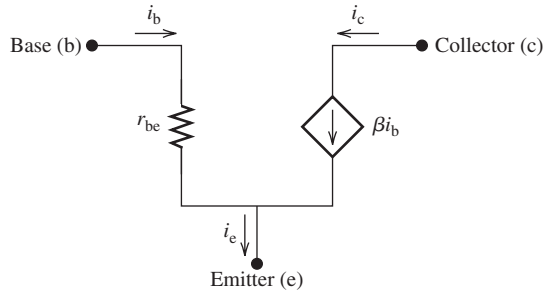
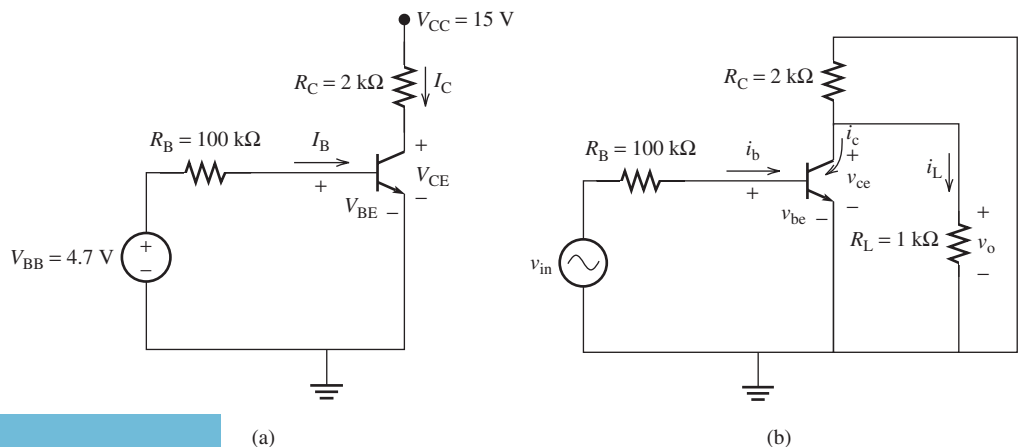

FIGURE 8.50 AC equivalent circuit (small-signal model) of an NPN transistor.
FIGURE 8.52 (a) DC and (b) AC equivalent circuits for the circuit shown in Figure 8.51.
In AC analysis, the transistor is replaced by an equivalent circuit called the *small-signal model*. This small-signal model is appropriate for a transistor if it operates in its active region. It should be noted that the transistor is used as a voltage and/or current amplifier only in its active region. Therefore, it is important to make sure that the transistor operates in this region prior to initiating this analysis. A small-signal model for an NPN transistor is shown in Figure 8.50.
4. Replace the transistor with its AC equivalent circuit depicted in Figure 8.50
First, calculate the Q-point from the DC analysis to check the region of operation. The DC equivalent circuit is shown in Figure 8.52(a). Applying the same procedure as in the previous section:
Now, replace C , V_{BB} , and V_{CC} with short circuits, which leads to the AC equivalent circuit shown in Figure 8.52(b). To complete the AC analysis, replace the transistor with the small-signal model given in Figure 8.50. The resistance, r_{be} , is calculated using Equation (8.43):